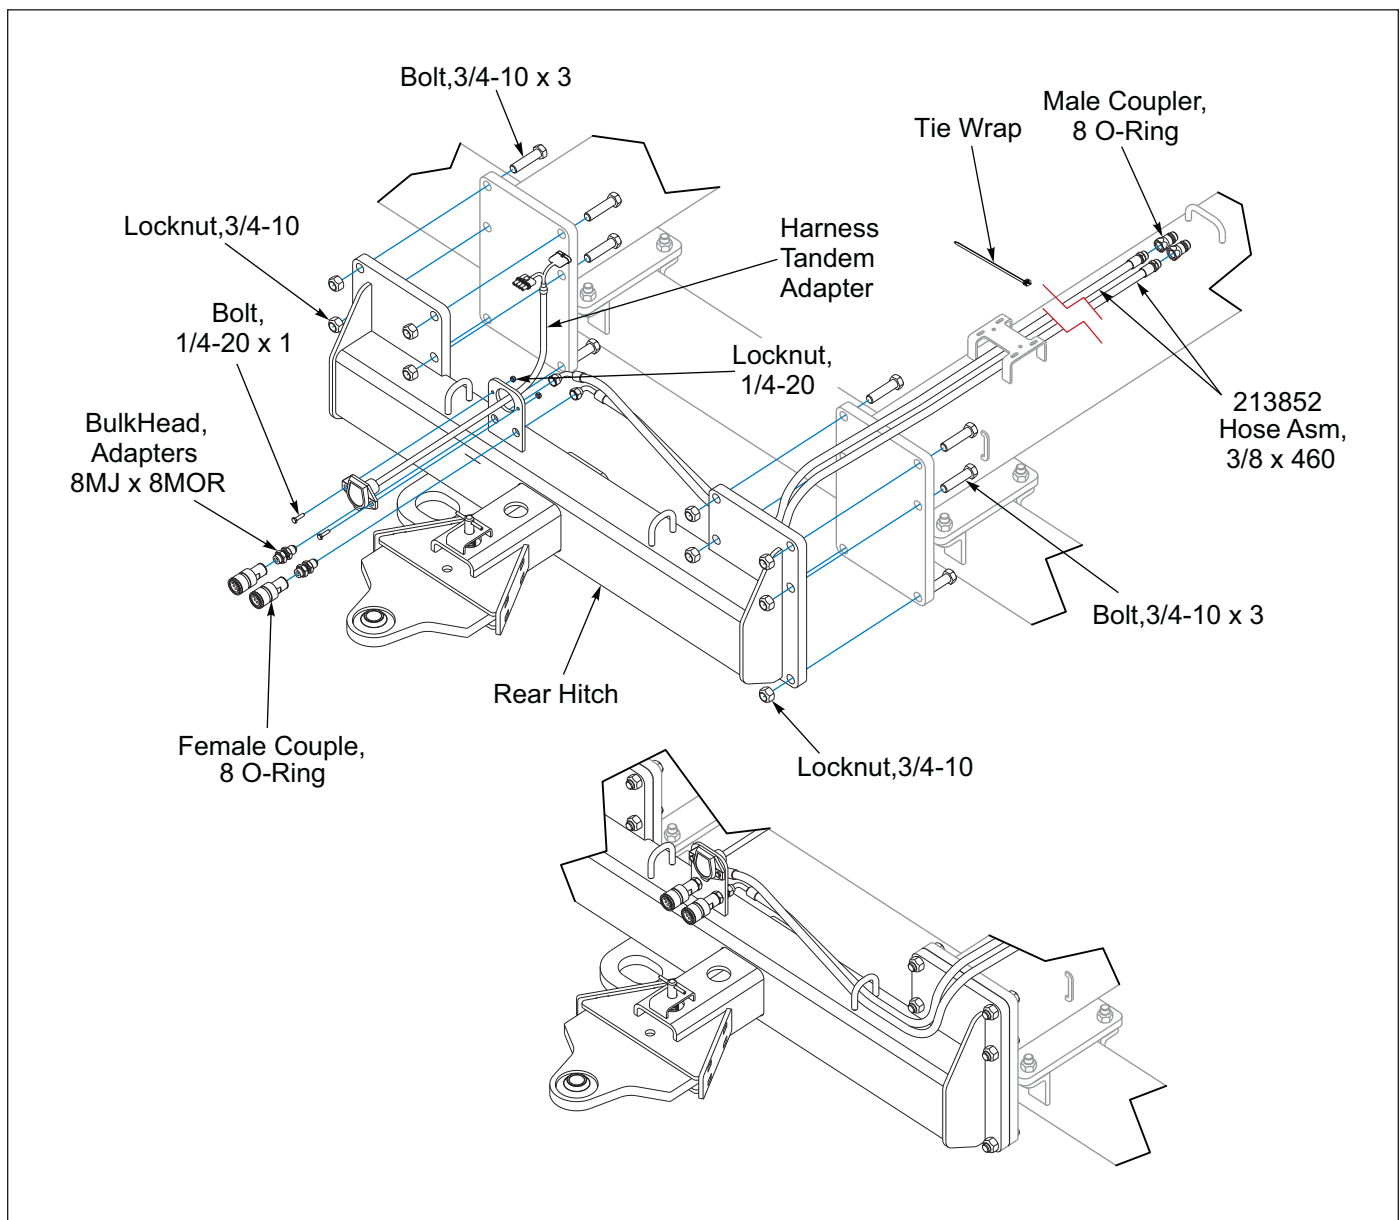

Figure 2-82: Optional Rear Hitch Installation
1. Position the Rear Hitch to the rear frame hitch plates, insert twelve 3/4-10 x 3 Bolts secure with Locknuts. **See Figure 2-82.**